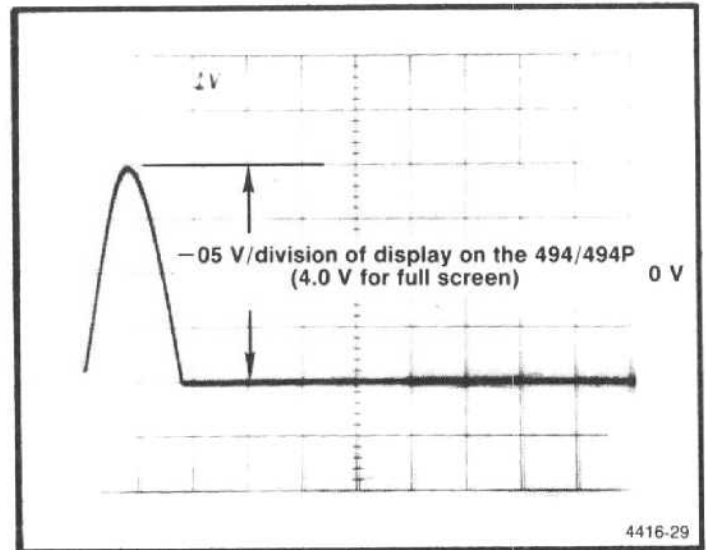

Figure 4-24. Test oscilloscope display of VERTICAL output with a full screen display on the 494.
d. Check — the amplitude of the output vertical signal on the test Oscilloscope. Output level should equal, plus and minus 2 V for a total of $4\text{ V} \pm 0.2\text{ V}$ (see Figure 4-24).